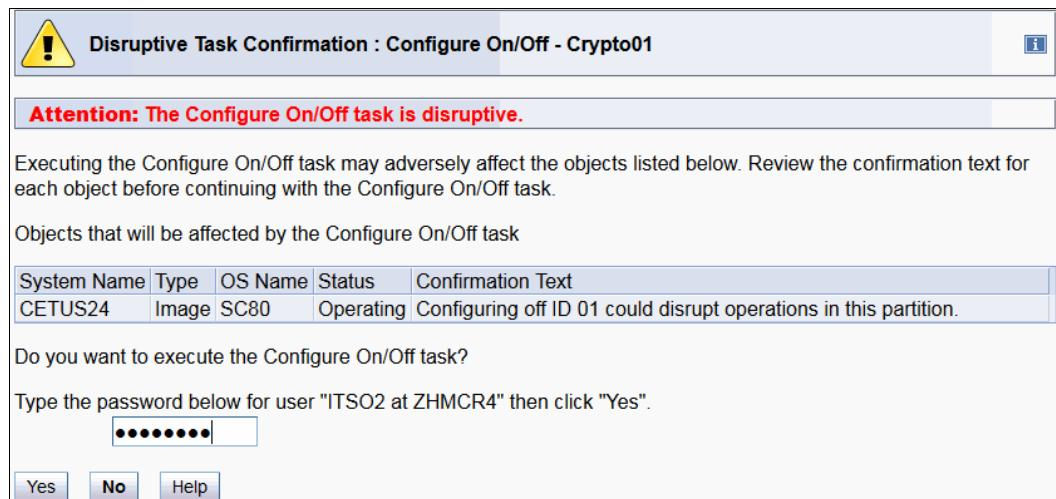

Figure 10-30 Configure On/Off (Online to Standby): Confirmation
- Because taking a cryptographic coprocessor offline can be disruptive to your application, a confirmation is required. The task must be confirmed by keying in the user password (Figure 10-30).